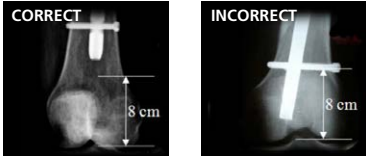

Figure 2
- No metal present within 8cm of joint (see Figure 2)